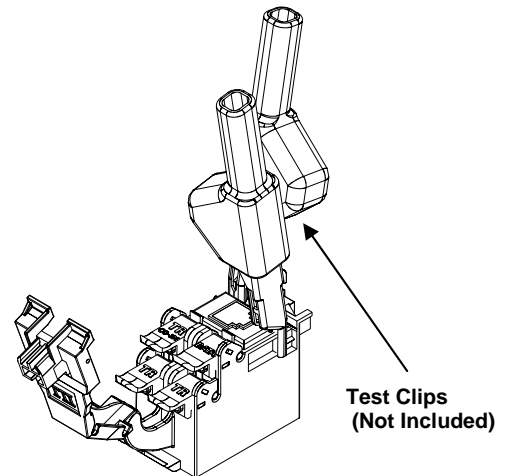

Figure 4
8. Insert test clips into test ports and follow company procedure for testing (See Figure 4).